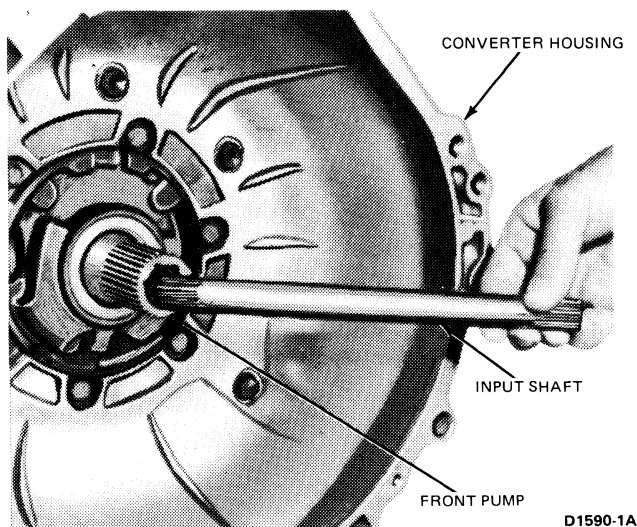

FIG. 18 Removing or Installing Input Shaft
- Remove the dial indicator and remove the input shaft from the front pump stator support (Fig. 18).